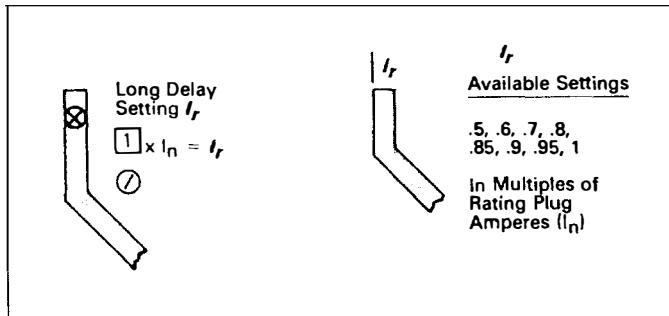

Fig. 4.1 Long Delay Current Settings
The available settings, along with the illustrated effect of changing the settings, are given in Figs. 4.1 through 4.7.
There are eight (8) available Long Delay Settings, as illustrated in Fig. 4.1. Each setting, called " $I_r$ " is expressed as a multiple (ranging from .5 to 1) of the rating plug current ( $I_n$ ).